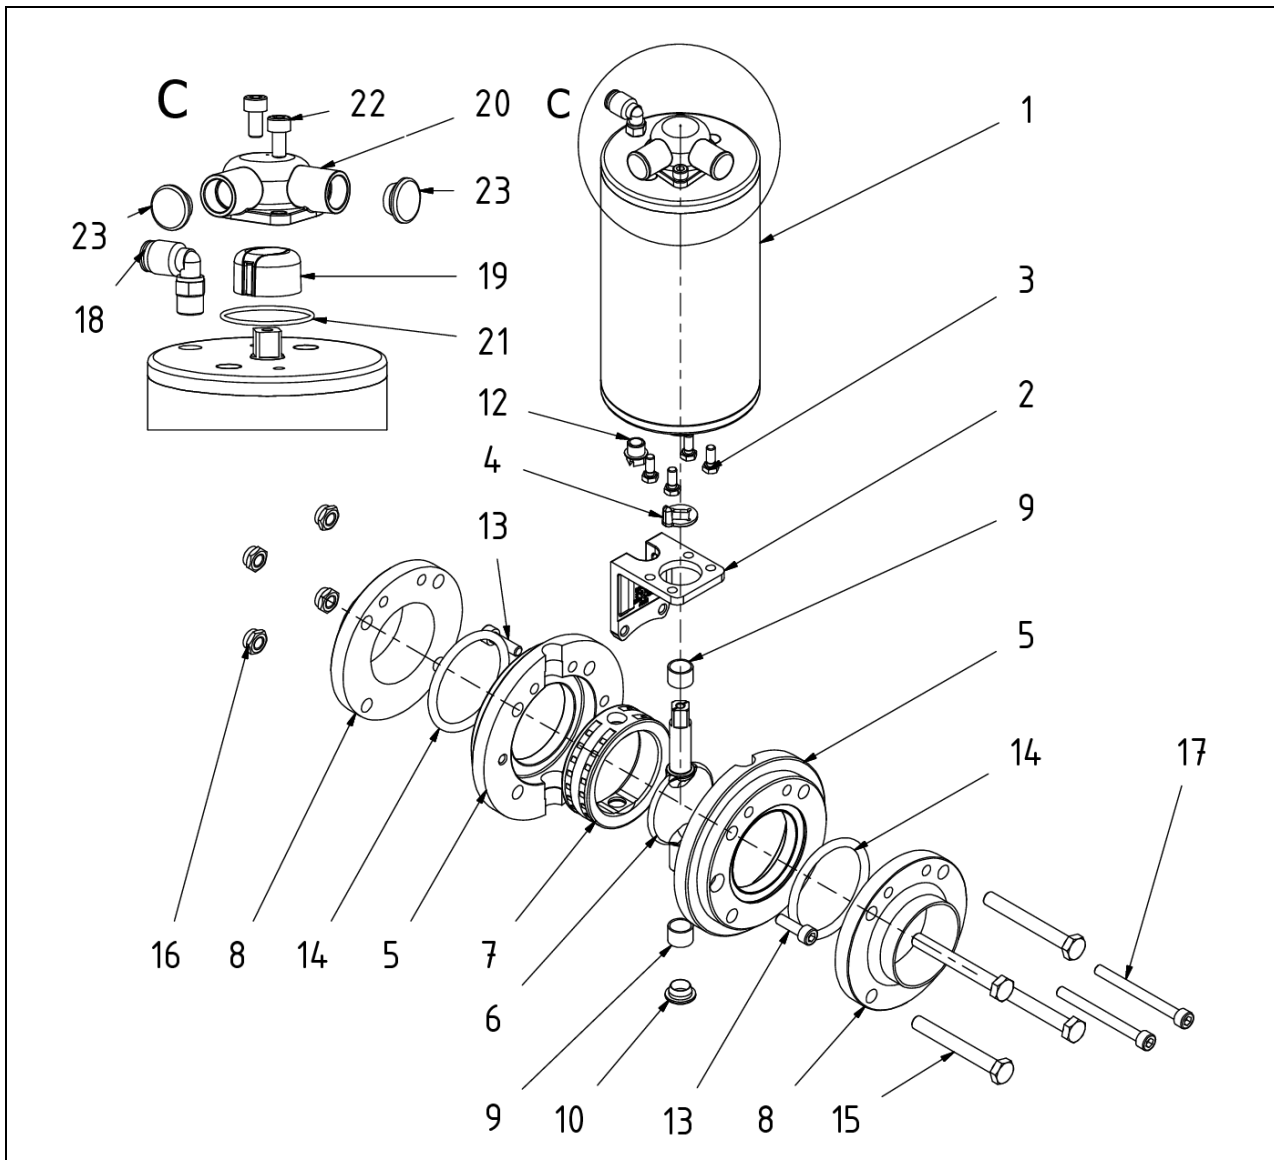

Fig. 6.4: Structure of Compact Butterfly Valve with Pneum. Actuator VMove
- Bolt the valve and the outer flanges together using the hexagonal bolts (Fig. 6.4, item 15) and hexagonal nuts (Fig. 6.4, item 16).
Item 18 does not apply for nominal widths DN 10, 15 or 20. In these cases, the holding bracket is also held in place by the hexagon bolts (Fig. 6.4, item 15).
Before installation in the pipe system, check to ensure that the red switch cam on the switching puck on the position display (Fig. 6.4, Fig. 6.3 and 6.4 item 19) points exactly to the desired proximity switch when in the “Open” or “Closed” position.
Before screwing in, remove the blue blanking plugs (Fig. 6.4 Fig. 6-3, and Fig. 6-4, item 23).